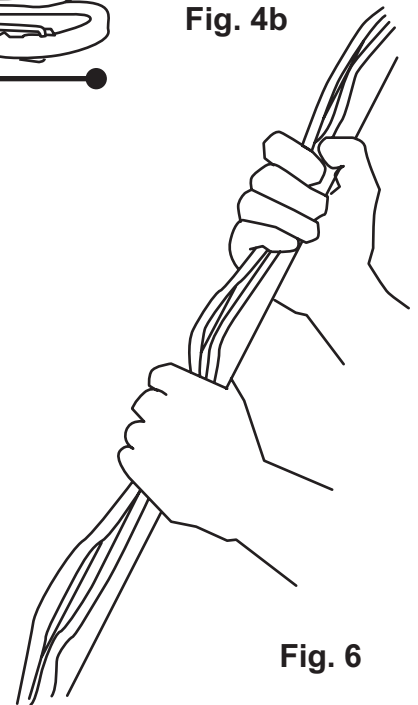

Fig. 6
6. Securely hold the rescue system along the shaft of the pole while using the Rescue Pole for easy handling during operation (Fig. 6).